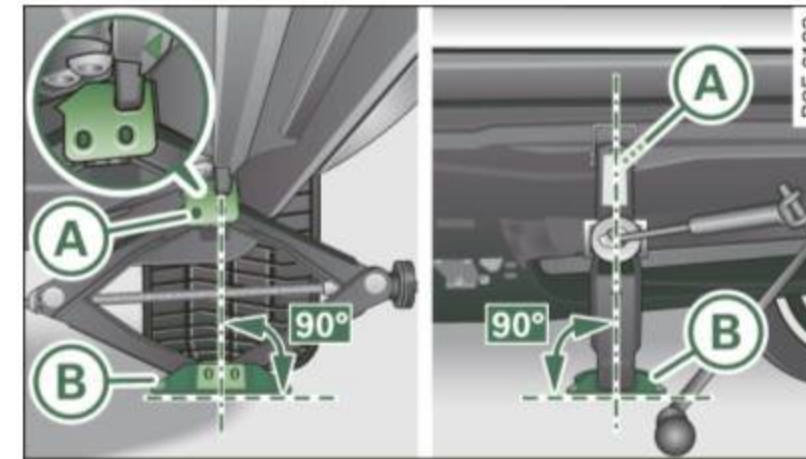

Fig. 225 Close-up: proper positioning of jack
- Turn the handwheel on the **vehicle jack** until the jaw ⇒ fig. 225 (A) covers the **notch** on the vehicle.
- Align the vehicle jack so the jaw (A) covers the notch and the base plate (B) is flat on the floor. The base plate (B) must be *vertical* under the lifting point (A).